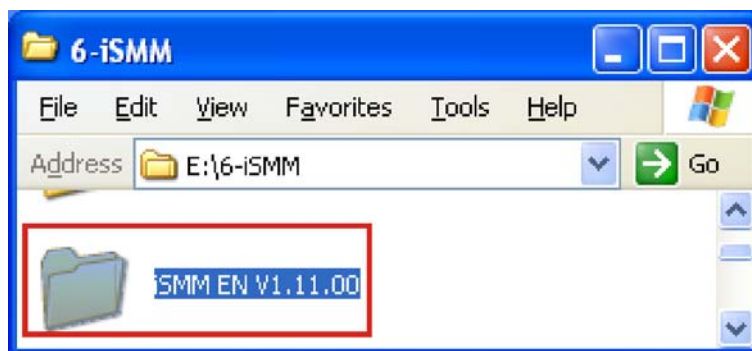

Figure 7-29: iSMM Directory
Step 3: The iSMM directory appears. (**Figure 7-29**)
Step 4: Double click the **iSMM EN V1.11.00** directory icon. (**Figure 7-29**)